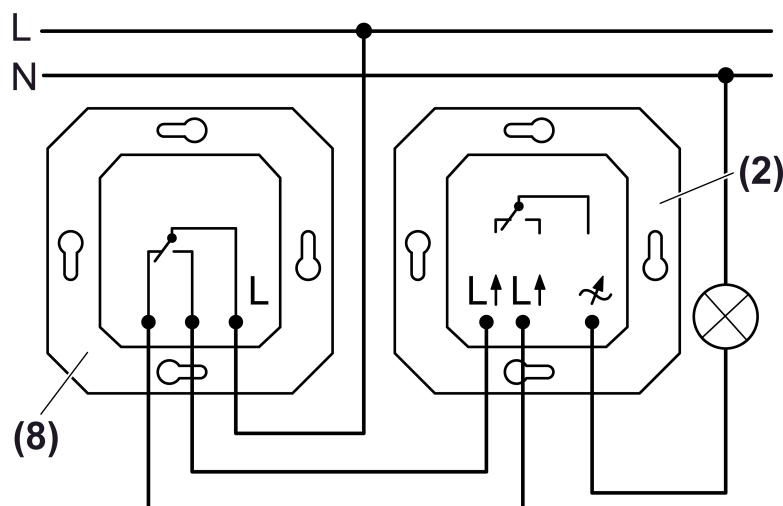

Figure 3: Changeover switch
- Connect the dimmer (2) and the changeover switch (8) according to the connection diagram (Figure 3).